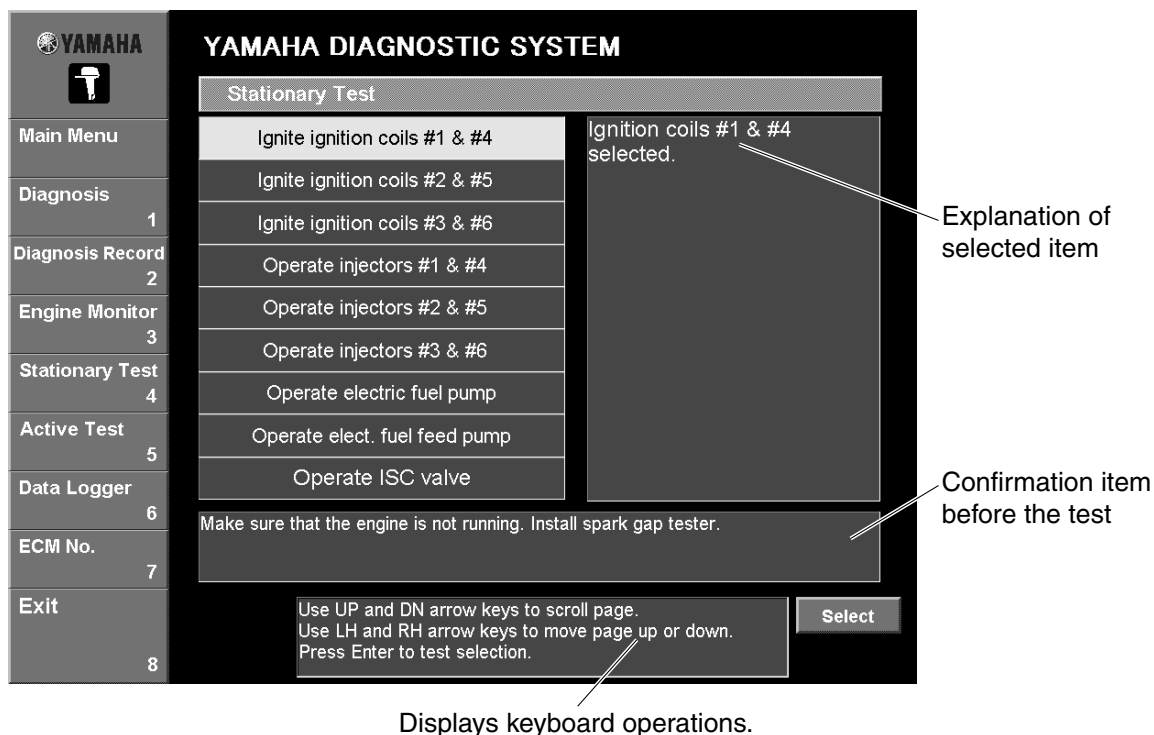

Fig. 22
1. Select the test that you wish to perform by either clicking it or pressing the up or down arrow keys on your keyboard. (Fig. 22)
4. Select the cylinder number where the spark gap tester is connected, and then click the **Select** button or press the Enter key on your keyboard. (Fig. 22)